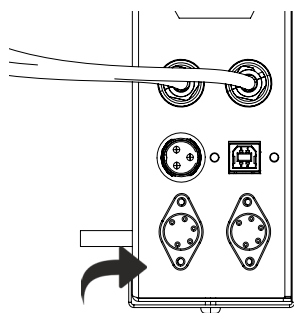

Fig. 12 : Connection Guide
- Then, plug in the stirrer aviation to the unit following the instructions in fig.12.